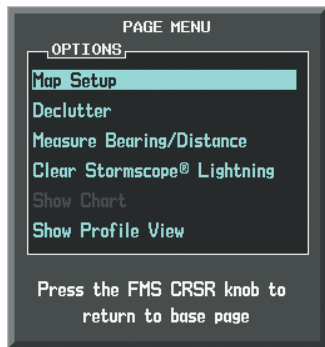

Figure 6-83 Navigation Map Page Menu
- 3) With Map Setup highlighted, press the **ENT** Key (Figure 6-83).